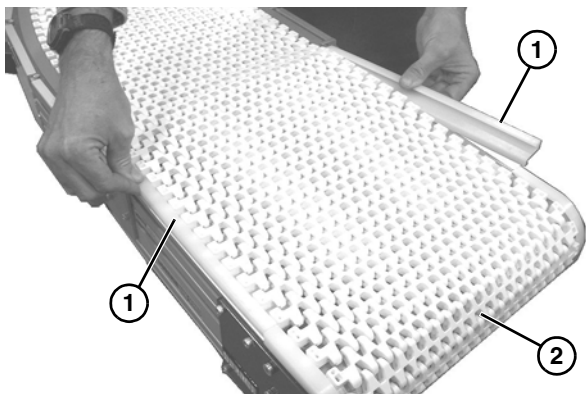

Figure 21
- Slide the top wear strips (**Figure 21**, item 1) with wide lip facing up, under the conveyor belt (**Figure 21**, item 2) catching the bottom lip on conveyor frame, to cover the belt tabs.